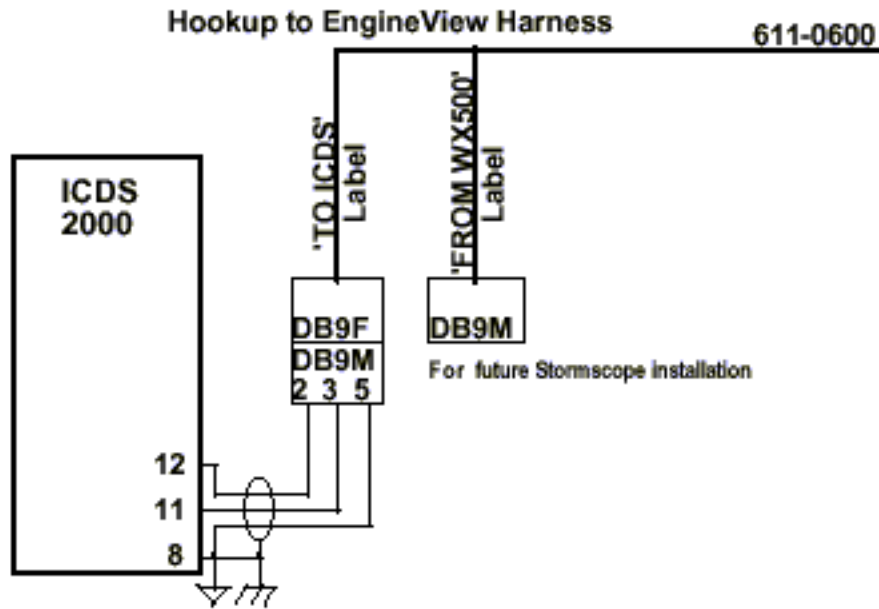

Figure 10.1.3
5. Plug the DB9 end of 611-0603 (the 'ICDSCOM2' cable) into the 611-0600 connector marked 'TO ICDS' (Refer to **Figure 10.1.3**)